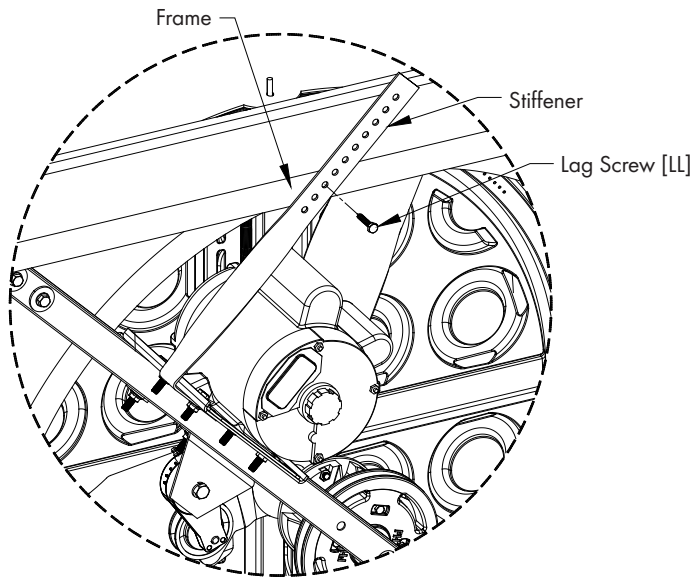

Figure 26B
Using channel locks and/or a hammer twist the Motor Bracket Stiffener so that the holes in the bracket lay flat against the framing. Then attach Stiffener to framing using (1) Lag Screw [LL]. See Figure 26B.